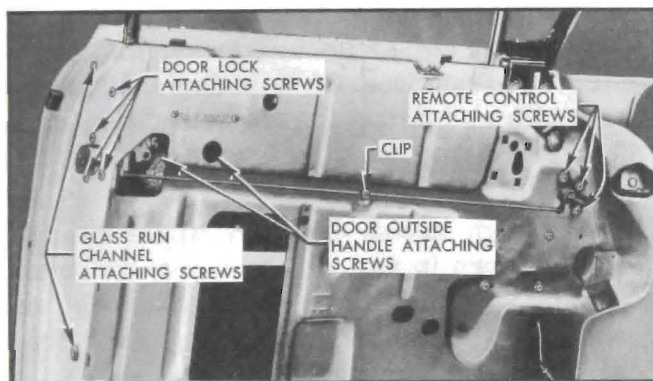

Figure 13-202—Front Door Lock Mechanisms
4. On two-doors detach remote control connecting rod from clip on inner panel and remove rod and anti-rattle clip from lock. See figure 13-202.